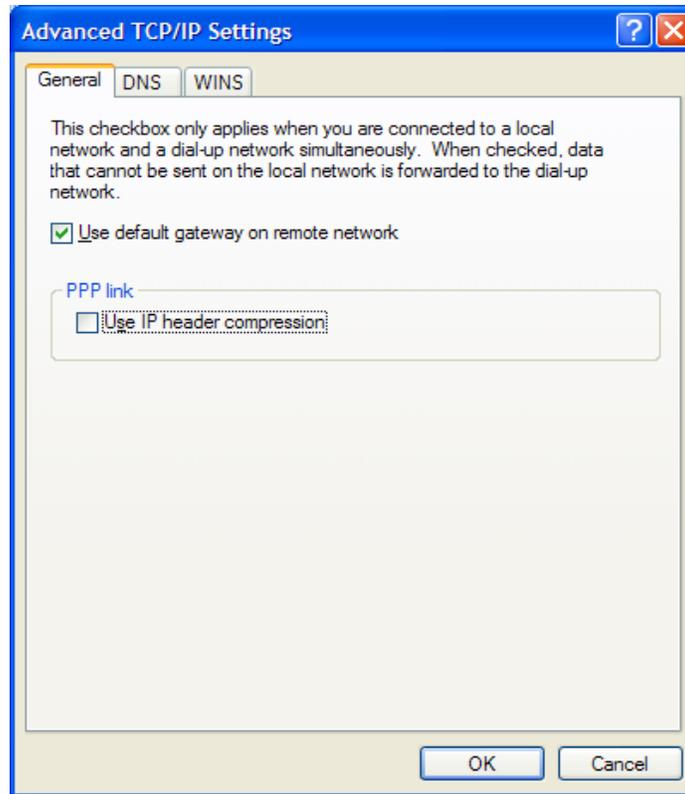

Figure 6-8: Advanced TCP/IP Settings
6. It is a good idea to uncheck the IP Header compression and check the "Use default gateway on remote network" in "Internet Protocol (TCP/IP)" properties settings of the applicable dial-up connection, as shown in Figure 6-8.